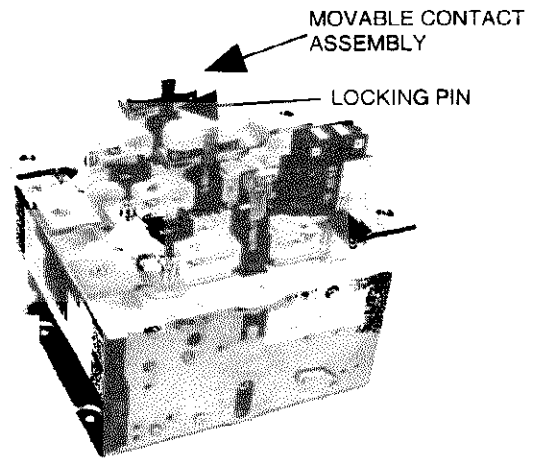

Figure 3 - Main Contact Renewal
3. Press down on the movable contact assembly until the locking pins become loose. Remove locking pins by sliding them to the right or left. See Figure 3.